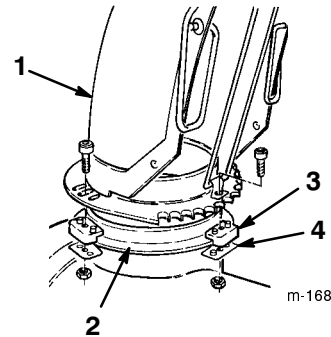

Figure 13
2. Set the discharge chute (open side forward) onto the discharge opening so that the plastic chute retainers are on the chute ring (Fig. 13).
3. Tighten the machine screw and the locknut on the left side to position the plastic chute retainer against the chute retainer plate and to secure the discharge chute to the chute ring (Fig. 13).
4. Push the other chute retainers toward the discharge chute (slotted) and tighten the screws (Fig. 13).
5. Make sure that the chute rotates freely on the chute ring. If the chute binds, move the right-hand retainer outward (Fig. 13).